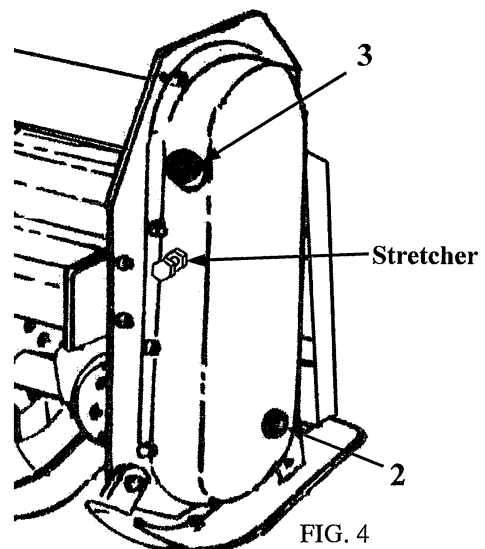

FIG. 4
- Check oil level in the chain drive by unscrewing the oil level plug (2 in fig. 4). If needed to add oil, unscrew the filler plug (3 in fig. 4) and fill in the cover until it starts running out the level hole.